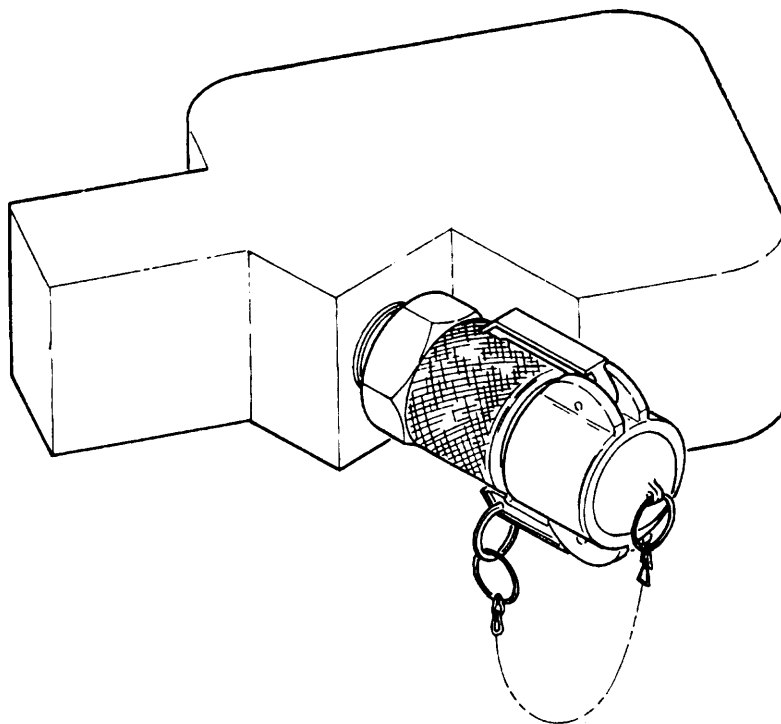

Figure 1-10. Closed Circuit Refueling Nozzle.
**1-15. CLOSED CIRCUIT REFUELING NOZZLE.** (Refer to Figure 1-10.)